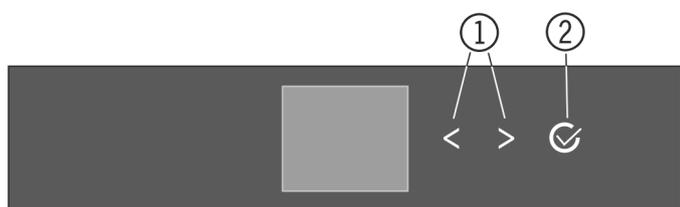
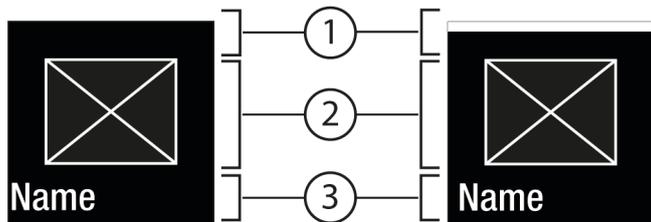
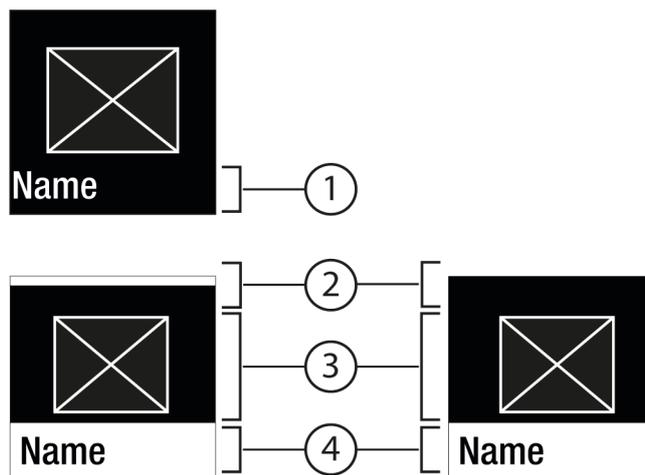

Fig. 5
Fig. 6
Fig. 7
- (1) Left/right navigation arrow
- (2) Confirm
Left/right navigation arrow Fig. 5 (1):
Confirm Fig. 5 (2):
- Navigate with the left/right navigation arrow Fig. 5 (1).
- Press Confirm Fig. 5 (2) to go to the submenu Fig. 7 (4).
- Set new level: Press Confirm Fig. 5 (2) to select a deselected value Fig. 6 (1).
- Back to menu: Press Confirm Fig. 5 (2) to select the selected value Fig. 6 (2).
- ▶ Press the navigation arrows *Fig. 5 (1)* until appears.
- ▶ Press Confirm *Fig. 5 (2)*.
- ▶ Press the navigation arrows *Fig. 5 (1)* repeatedly until the function is displayed.
- ▶ Select the setting value with the navigation arrows *Fig. 5 (1)*.
- ▶ Press *Fig. 5 (2)* confirm.
- ▷ Status: on *Fig. 6 (1)* appears briefly in the submenu *Fig. 7 (4)*.
- ▶ Press the navigation arrows *Fig. 5 (1)* repeatedly until the settings  are displayed.
- ▶ Press the navigation arrows *Fig. 5 (1)* repeatedly until the desired setting is displayed.
- ▶ Press Confirm *Fig. 5 (2)* for 3 seconds.